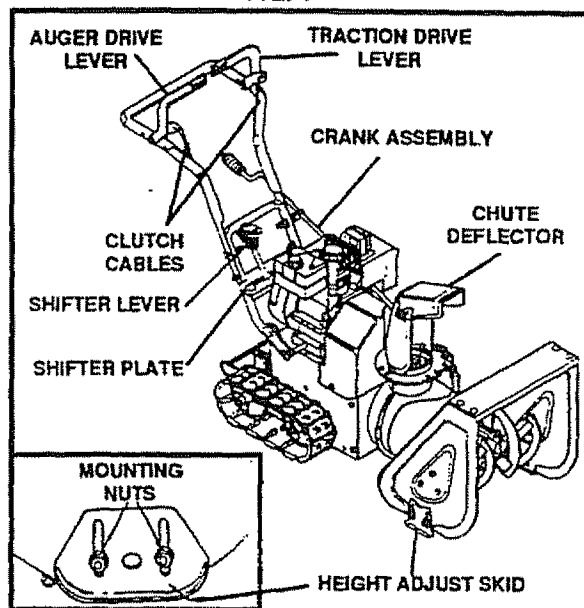

FIG. 2
Figure 1 shows the snow thrower in the shipping position. Figure 2 shows the snow thrower completely assembled. Reference to the right and left hand side of the snow thrower is from the operator's position at the handle.
- Your snow thrower is equipped with height adjust skids (See Fig. 2) on the outside of the auger housing. To adjust the skid height for different conditions, see To Adjust Skid Height paragraph on page 17.